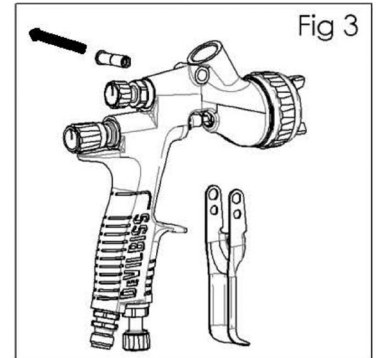

Fig 3
2. Remove trigger stud (40) and remove trigger (39) (See fig 3).